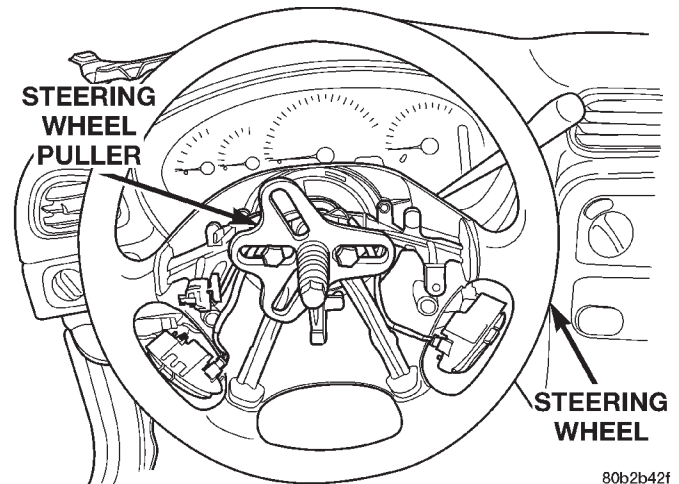

Fig. 13 Puller Installed On Steering Wheel
(16) Install Puller on steering wheel as shown (Fig. 13).